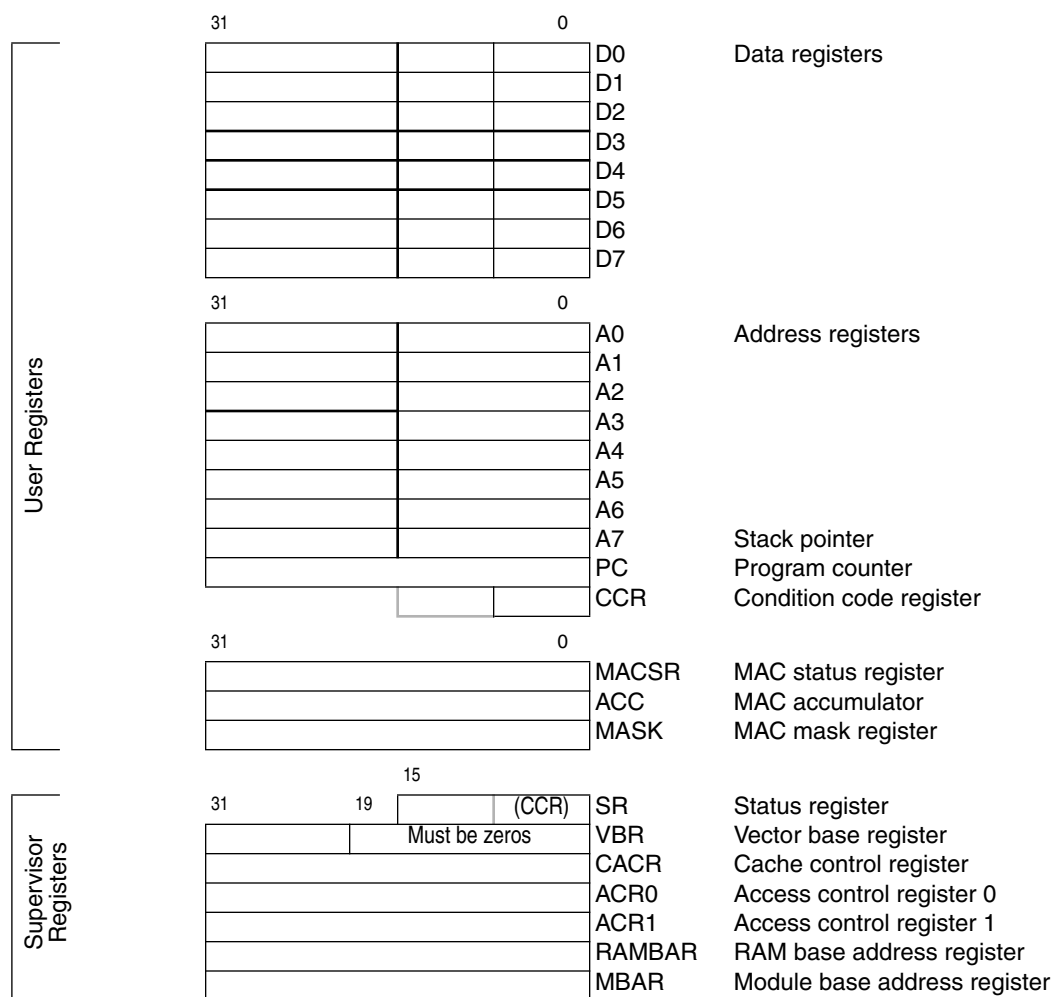

Figure 4. ColdFire MCF5307 Programming Model
Figure 4 shows the MCF5307 programming model.
The user programming model is shown in Figure 4 and summarized in Table 1.
Status register (SR)	The upper byte of the SR provides interrupt information in addition to a variety of mode indicators signaling the operating state of the ColdFire processor. The lower byte of the SR is the CCR, as shown in Figure 4.